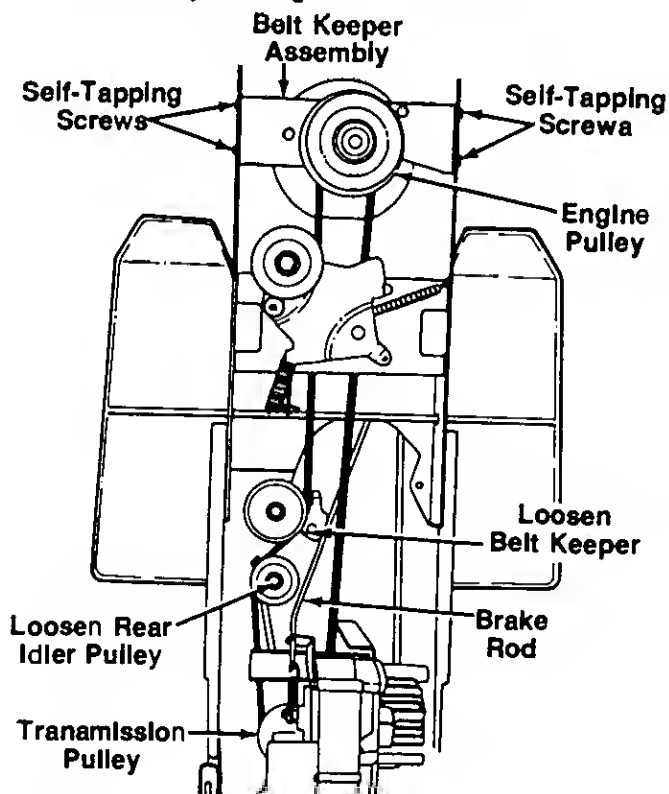

FIGURE 21.
## DRIVE BELT REPLACEMENT (See figure 21)
4. Remove the four self-tapping screws which hold the belt keeper assembly to the frame at the engine pulley. Push the belt keeper assembly forward, out of the way. See figure 21.